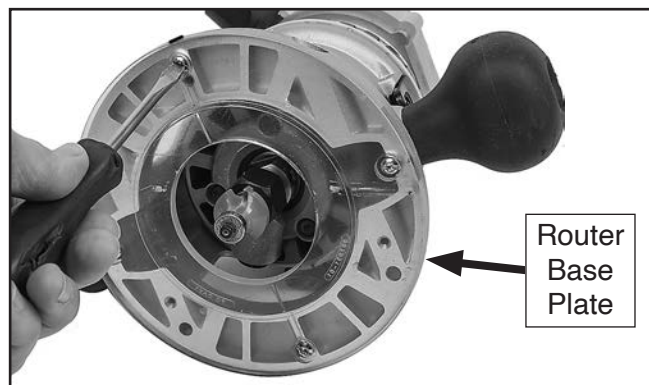

Figure 21. Example of removing typical base plate from router.
5. Remove router base plate (see **Figure 21**).